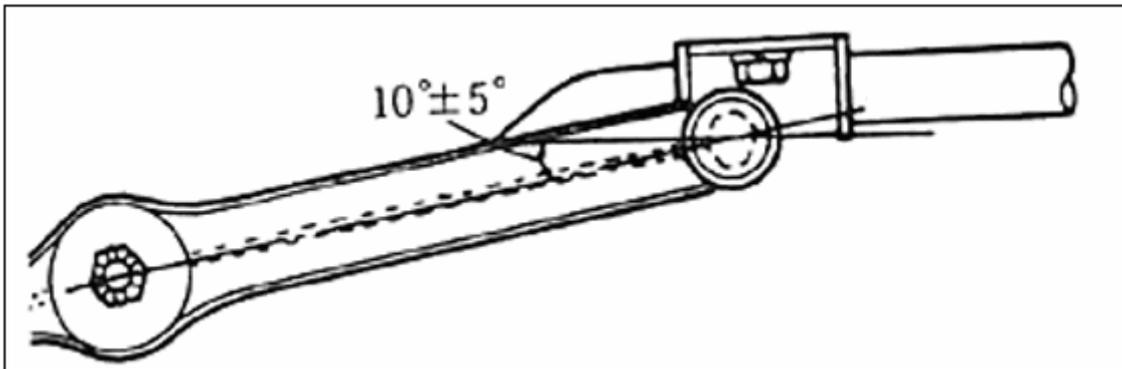

FIG 14-25
- (1) Install lower arm to crossmember (FIG.14-25). Tighten lower arm nut to specified torque when the lower arm angle is as shown in FIG.14-25.